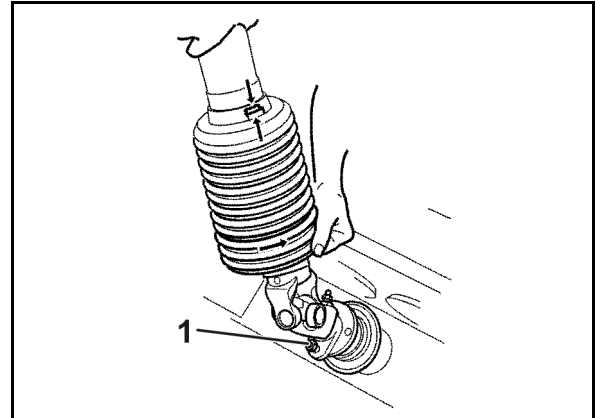

Fig. 89
1. Move the PTO shaft guard into installation position (Fig. 89).
The separately packaged **screws** M8 x 30 A2-70, are **replacement shear bolts** (Fig. 89/1) for fastening the universal joint fork of the PTO shaft to the flange of the gearbox input shaft. Always use grease when fastening the PTO shaft to the gearbox input shaft.